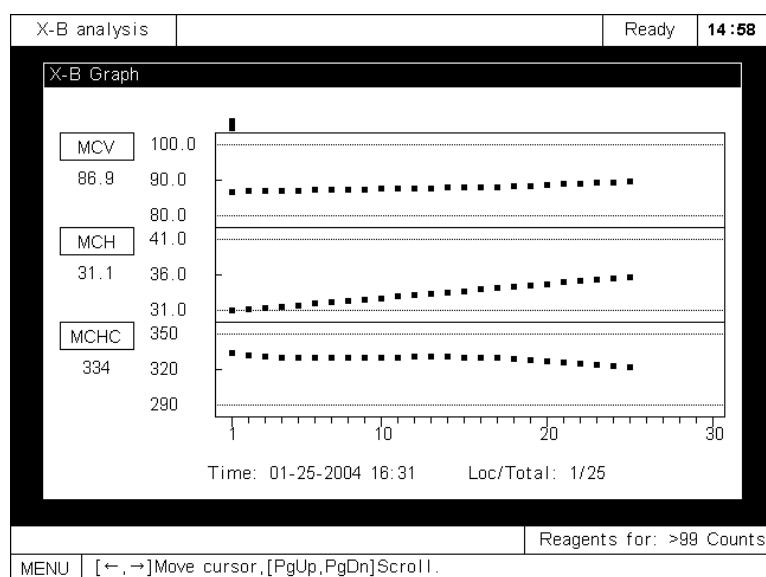

Figure 4-19 **X-B graph** Screen
At the **X-B Table** screen, press [F2] to enter the **X-B Graph** screen, as Figure 4-19 shows. For every parameter, the **X-B graph** presents 500 points, 30 for every screen. You can press [PgUp] or [PgDn] to view the previous or next screen. At every screen, you can press [←] or [→] to view the results of every point (displayed in the box below the parameter name)one by one.
2. For every parameter, the upper dash line of its X-B graph represents the upper limit of the expected range of the analysis result. The corresponding value (100 in case of the MCV in Figure 4-19) equals Mean + Range and is displayed on the left of the line.
3. For every parameter, the lower dash line of its X-B graph represents the lower limit of the expected range of the analysis result. The corresponding value (80 in case of the MCV in Figure 4-19) equals Mean - Range is displayed on the left of the line.
4. For every parameter, its mean (90 in case of the MCV in Figure 4-19) is displayed between the values of the upper dash line and of the lower dash line.